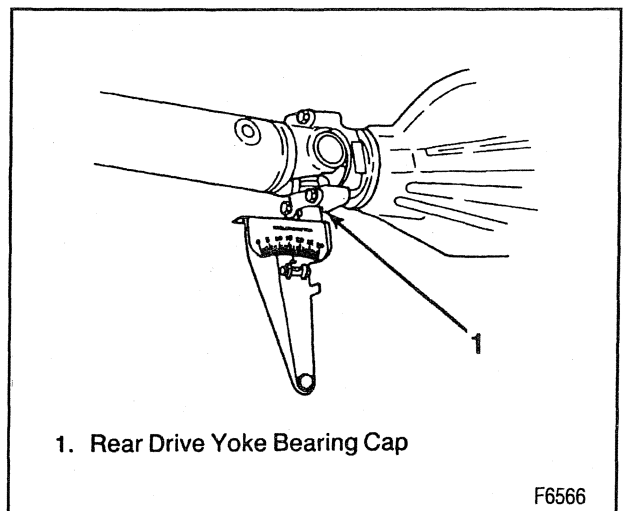

Figure 25—Measuring Rear U-Joint Working Angle
2. Rotate the propeller shaft 90 degrees and place the inclinometer on the rear drive yoke bearing cap (figure 25). Center the bubble in the sight glass and record the measurement.